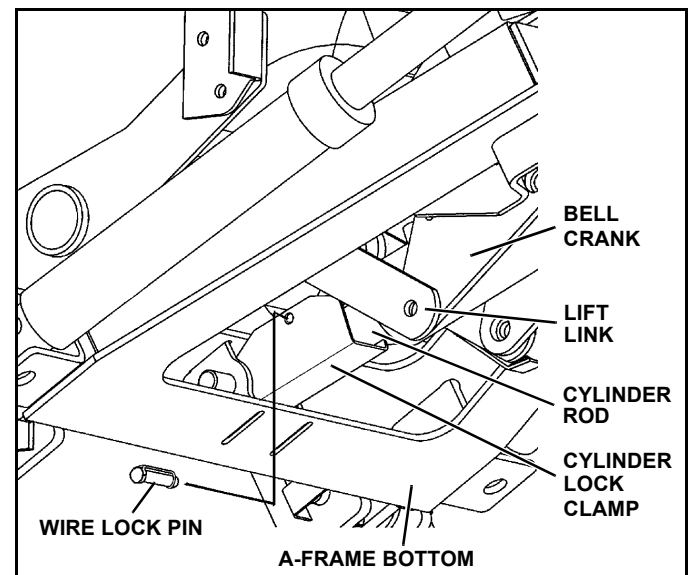

Figure 1-13
5. Position the cylinder lock clamp around the exposed (chrome) portion of the lift cylinder with the open side of the cylinder lock up. Install the pin. (See Figure 1-13).